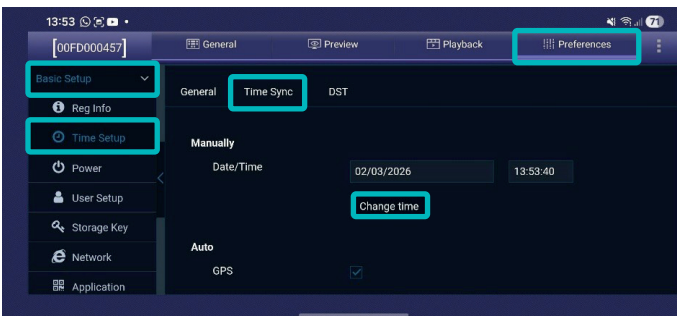

Fig. 4 If settings are changed, you must scroll down and select 'Save' to confirm.
- If required, you can adjust the Date/Time further in the Time Sync tab (Fig. 4). Select Save to confirm changes.